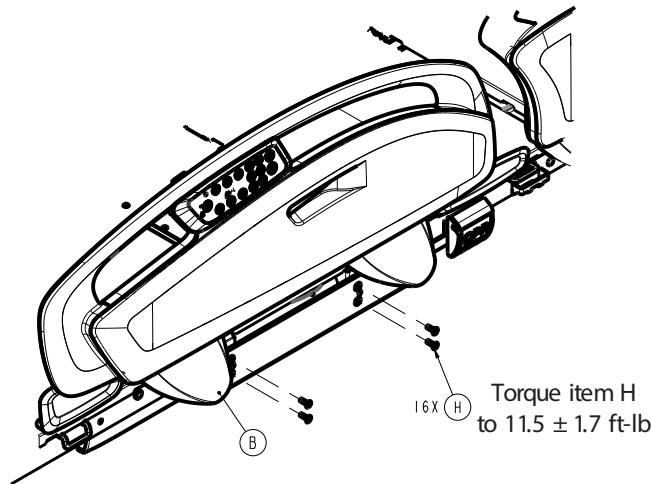

Figure 39 – Removing the assembly
19. Using a T30 Torx driver, loosen the four screws (H) that secure the siderail assembly to the Fowler weldment (Figure 39). Repeat on the opposite side.